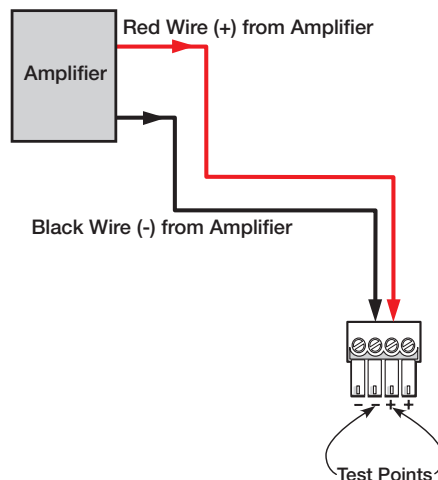

Figure 17. Signal Test Points — Loop-through Configuration
- The source signal can be tested by connecting to the inner + (IN) and – (IN) terminals of the captive screw connector, as shown in figure 17.